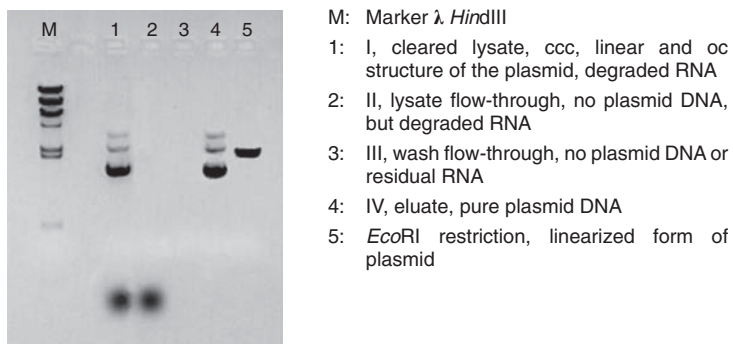

Figure 6 Exemplary analytical check of NucleoBond® Xtra Midi purification samples
The exemplary gel picture (Figure 6) will help you to address the specific questions outlined in the following section more quickly and efficiently.
- Check plasmid content in the cleared lysate (see Figure 6). Use colonies from fresh plates for inoculation and add selective antibiotic to plates and media.
- Too much cell mass was used. Refer to section 4.5 – 4.7 regarding recommended culture volumes and lysis buffer volumes. Check plasmid content in the cleared lysate (see Figure 6).
- Check plasmid content in the wash fractions (see Figure 6). Keep all buffers tightly closed. Check and adjust pH of Buffer EQU (pH 6.5), WASH (pH 7.0), and ELU (pH 9.0) with HCl or NaOH if necessary.
RNA contamination of plasmid DNA	<p>RNase digestion was inefficient</p> <ul style="list-style-type: none"> • RNase was not added to Buffer RES or stored improperly. Add new RNase to Buffer RES. See section 8.2 for ordering information. <p>pH or salt concentration of wash buffer is too low</p> <ul style="list-style-type: none"> • Check RNA content in the wash fractions (see Figure 6). Keep all buffers tightly closed. Check pH of Buffer EQU (pH 6.5) and WASH (pH 7.0) and adjust with HCl or NaOH if necessary. <p>Wash step with Buffer WASH was not sufficient</p> <ul style="list-style-type: none"> • Double or triple washing step with Buffer WASH. Additional Buffer WASH can be ordered separately (see ordering information).